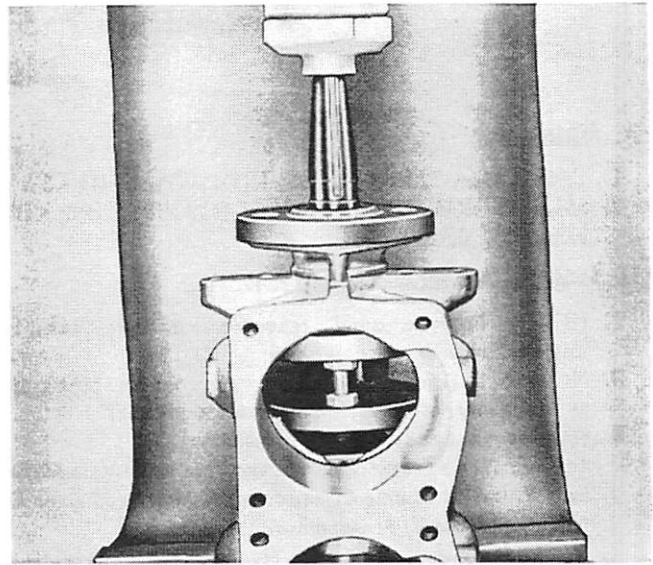

Figure 6. Removing Crankshaft
2. Place small reinforcing "blocks" or "jacks" between counterweights of crankshaft. This can be done with small 1/4" bolt and nut which will fit between counterweights. (Figure 6)
4. Press shaft out of bottom of crankcase. (Figure 6)